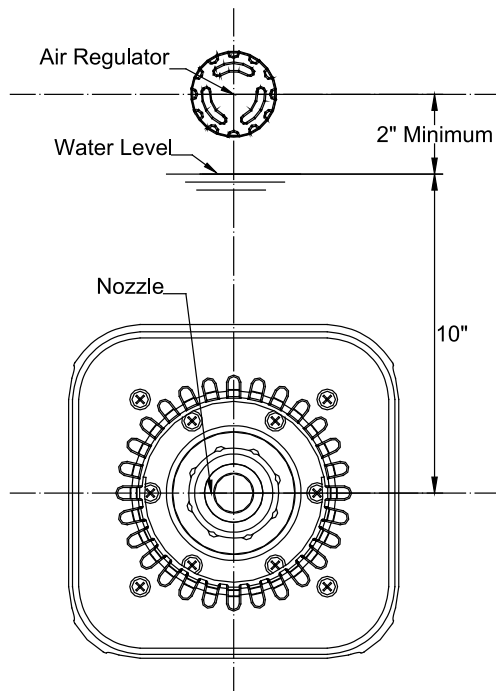

Figure 8
1. Using the clamping ring (part #3) as a template, drill holes in the pool wall for installation. The center line of the clamping ring should be 10" below the surface of the water. (See Figure 8) Two additional holes will need to be drilled at the 3 and 9 o'clock positions for installation of the housing (part #7). The four brass inserts in the clamping ring should be at the 2, 4, 8 and 10 o'clock positions.